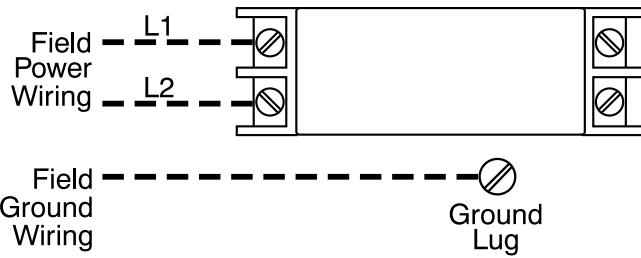
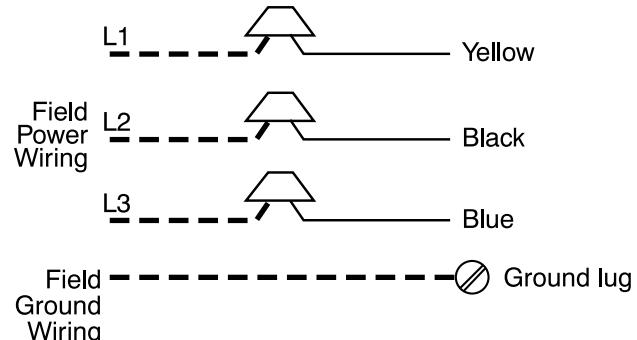
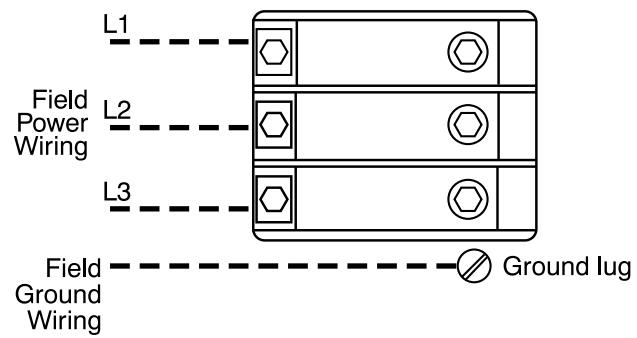

Fig. 12 – 3, 5, 8, 9 10 kW Non-fused Heaters (9 kW is field convertible to 3-phase. See \(Power Connections on p7\).
Fig. 16 – 15 kW 3-Phase Heater
Fig. 17 – 18 kW 3-Phase Heater
1. Unprotected heaters: See Fig. 12, Fig. 16, and Fig. 17.